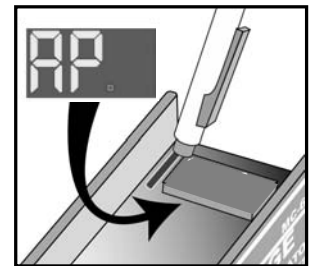

Figure 19 - Amp Manager mode.
1. **ACTIVATE-HOLD** when display cycles to "AP" (See Figure 19. PrA Mode 09). "AP" will be followed by "OFF" code. **RELEASE**.